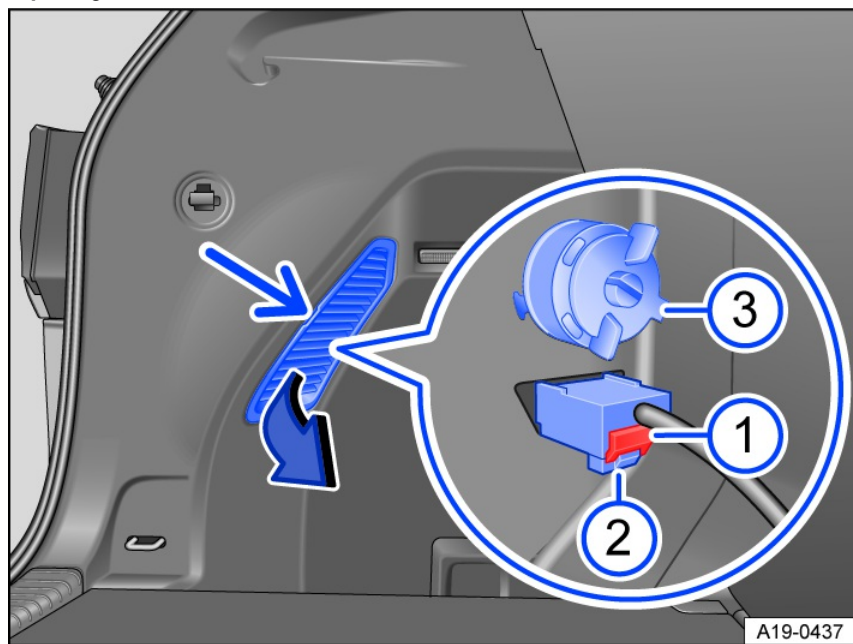

Fig. 172 Side of the luggage compartment: removing the taillight.
1. Use a screwdriver to lever off the ventilation grille at the recess and remove it in the direction of the arrow *fig. 172*.
2. Remove the red locking mechanism *fig. 172 ①* on the connector.
3. Release the connector *fig. 172 ②* and disconnect it.
4. Remove the screw counterclockwise *fig. 172 ③*.
2. Hold the taillight in the installation position with one hand and tighten the screw with the other hand *fig. 172* ③.
4. Connect the connector to the bulb holder and press in the red securing clip *fig. 172* ①.